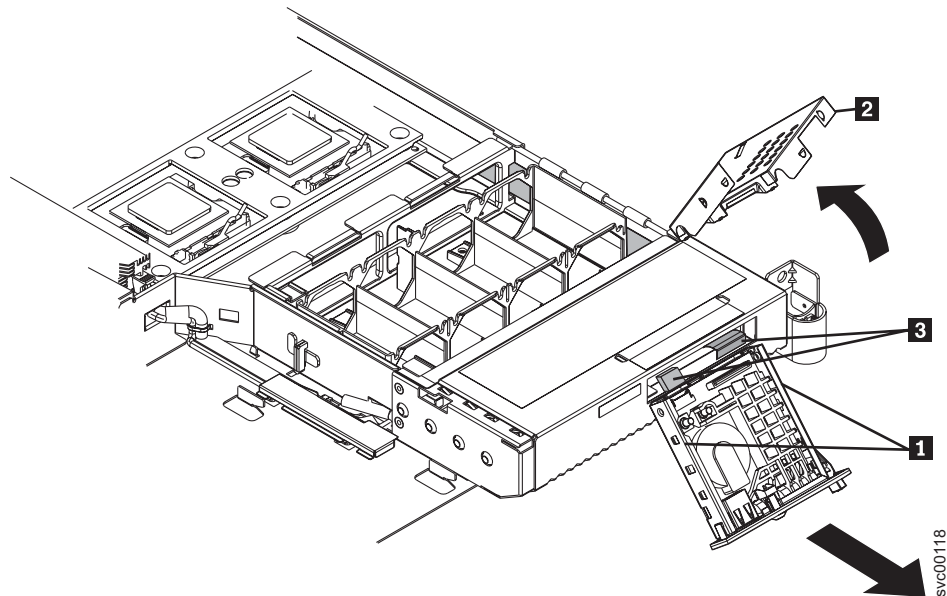

Figure 171. SAN Volume Controller 2145-8F2 with exposed operator information panel
5. Use a small screwdriver to push in the retention springs (**1** in Figure 171) on the sides of the operator information panel assembly.
8. Rotate the assembly cover (**2** in Figure 171) up and off of the operator information panel assembly.
9. Unplug the two cables from the rear of the assembly (**3** in Figure 171).